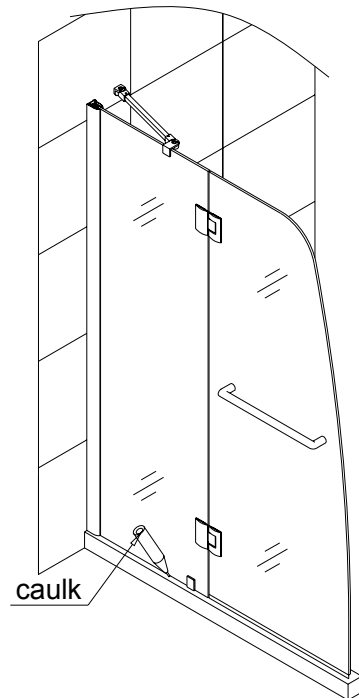

Fig 8
7. Seal with caulk (recommended 100% clear silicone) inside and outside along the bottom of the stationary glass and between the wall and the wall profile. See Fig.8 for details.